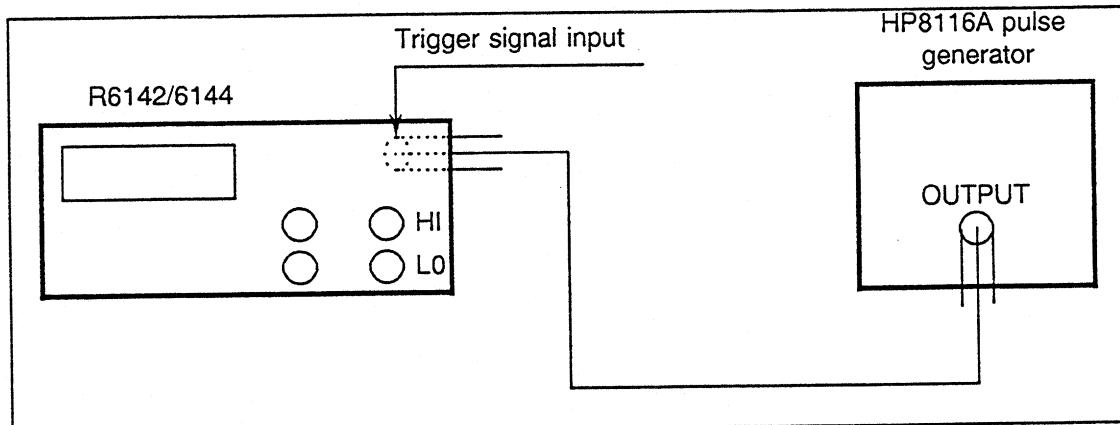

Figure 4-13 Cable Connection for Trigger Signal Test
① Connect the R6142/6144 to the HP8116A as shown in Figure 4-13.